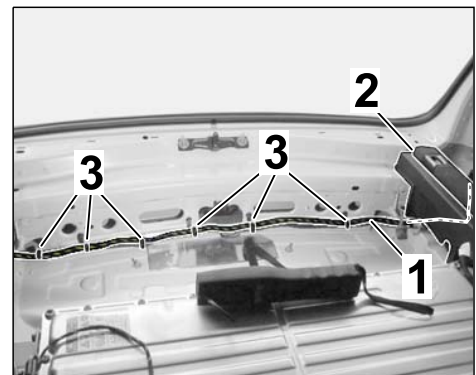

Figure 21
3.4.2 Route wire harness for switch along the existing wire harnesses as follows to the right side of the luggage compartment (⇒ *Figure 21*):